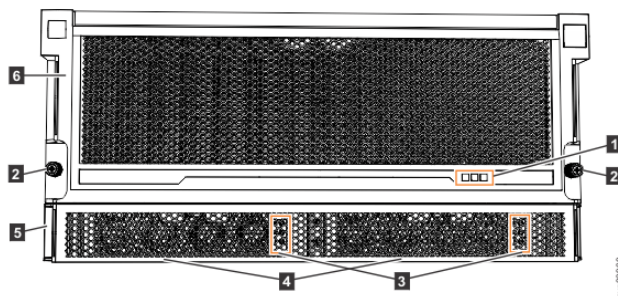
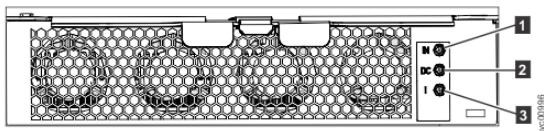

Figure 142. LEDs on the front of the expansion enclosure
Figure 143. LEDs on the front of a power supply unit
As Figure 142 on page 120 shows, the front of the 5U expansion enclosure contains LEDs for the display panel (1) and for each of the power supply units (3).
The 5U expansion enclosure contains two PSUs (4 in Figure 142 on page 120) that are accessible from the front of the enclosure. Each PSU has its own set of LEDs, as shown in Figure 143 on page 121.